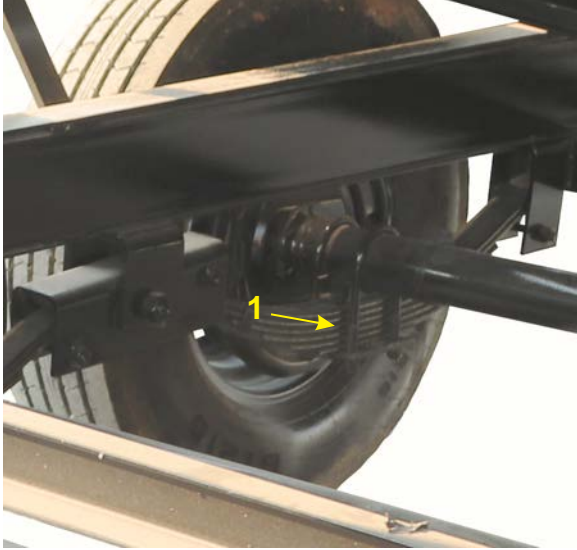

Figure 4-17 – Leaf Spring U-Bolts
- d. Check the leaf spring U-bolts (1, Figure 4-17) to make sure the U-bolt nuts are torqued properly.